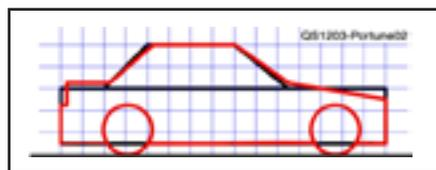

Figure 1 — Side view of *EZNEC* model of sedan. Details of the wire grid are shown in Figure 2.
**Figure 2 — EZNEC azimuth patterns of ¼ wave 2 meter whip antennas mounted at various locations on a wire grid model of the sedan shown in Figure 1. As shown, the center of the top provides the best pattern, followed by the center of the trunk lid.**